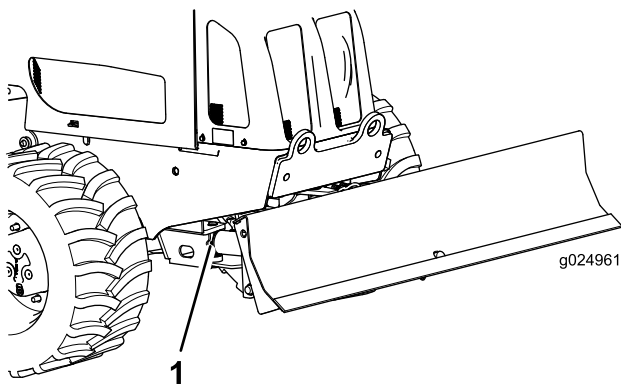

Figure 58
2. Connect the grease gun to the fittings on each blade-angle cylinder, and apply 3 pumps of grease to each fitting (Figure 58).